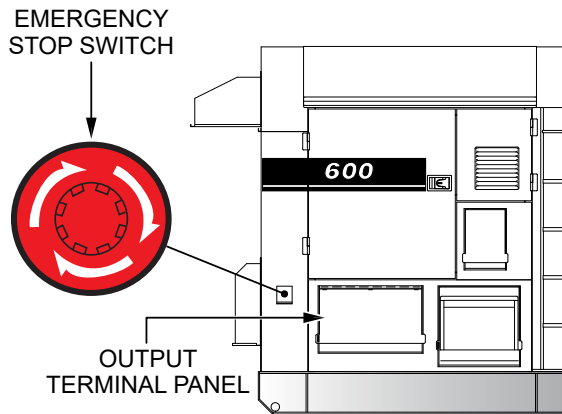

Figure 52. Emergency Stop Switch
1. To stop the engine in the event of an emergency, push the **Emergency Stop switch** (Figure 52). This switch is located on the side of the generator next to the output terminal panel.